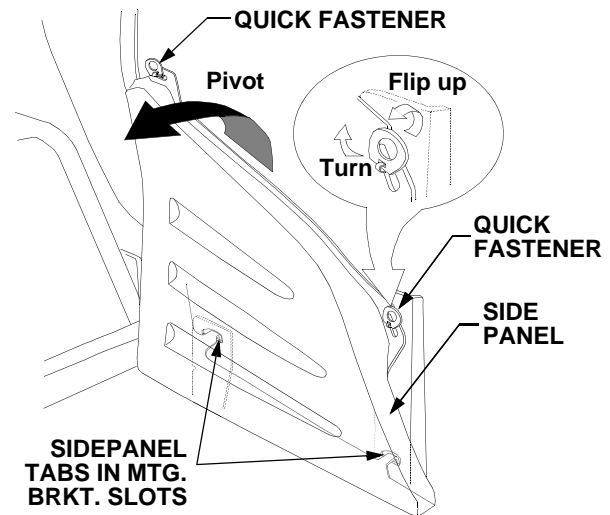

Figure 33
- Flip the tabs of the two quick release fasteners up and turn to align with the slots in the side panel. See Figure 33.
- Pivot the top of the side panel until the two tabs at the bottom of the panel can be withdrawn from the slots of the side panel mounting brackets; then remove the side panel. See Figure 33.
- Insert the two side panel tabs into the slots of the side panel mounting brackets. See Figure 33.